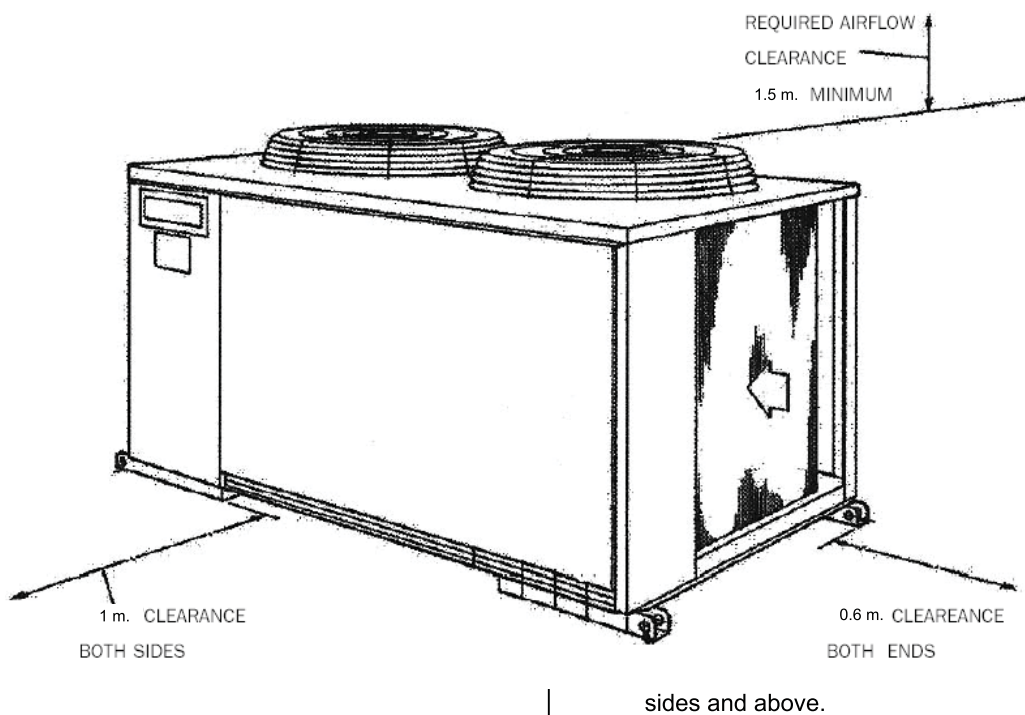

Fig. 1 -Air flow clearance
Only trained, qualified installers and service mechanics should install, start-up, and service this equipment (Fig.1)
- ☞ Allow sufficient space for airflow clearance, wiring, Refrigerant piping, and servicing unit. See Fig. 1. See Fig. 2 for unit component locations.